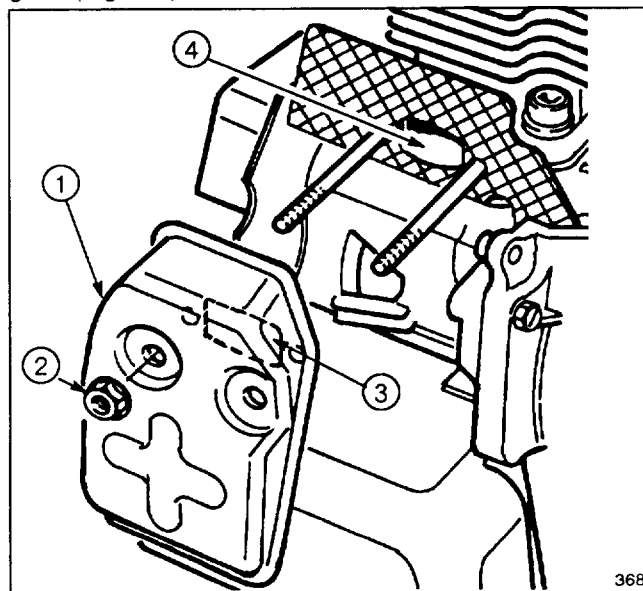

Figure 16
2. Remove two (2) nuts securing muffler to engine (Fig. 16). Remove muffler.
3. Clean any carbon build-up from muffler port (Fig. 16).
4. Pull recoil starter slowly to rotate the engine crankshaft until the piston totally covers the exhaust port (Fig. 16). Clean the exhaust port area by using a clean, flat piece of hard wood. Remove all loose particles.